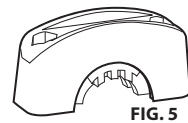

FIG. 5
- For cord sizes 0.75 to 0.95 - in diameter: Use Strain Relief Clamp with insert oriented as shown in Fig. 5.